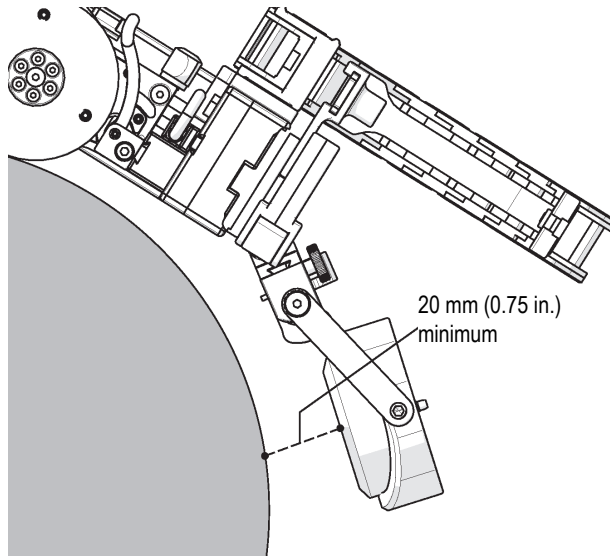

Figure 2-97 Latch the raster arm pivot nose
10. Lower the probe holder to a minimum of 20 mm (0.75 in.) above the scan surface, and latch the raster arm at this position (see Figure 2-97 on page 120).